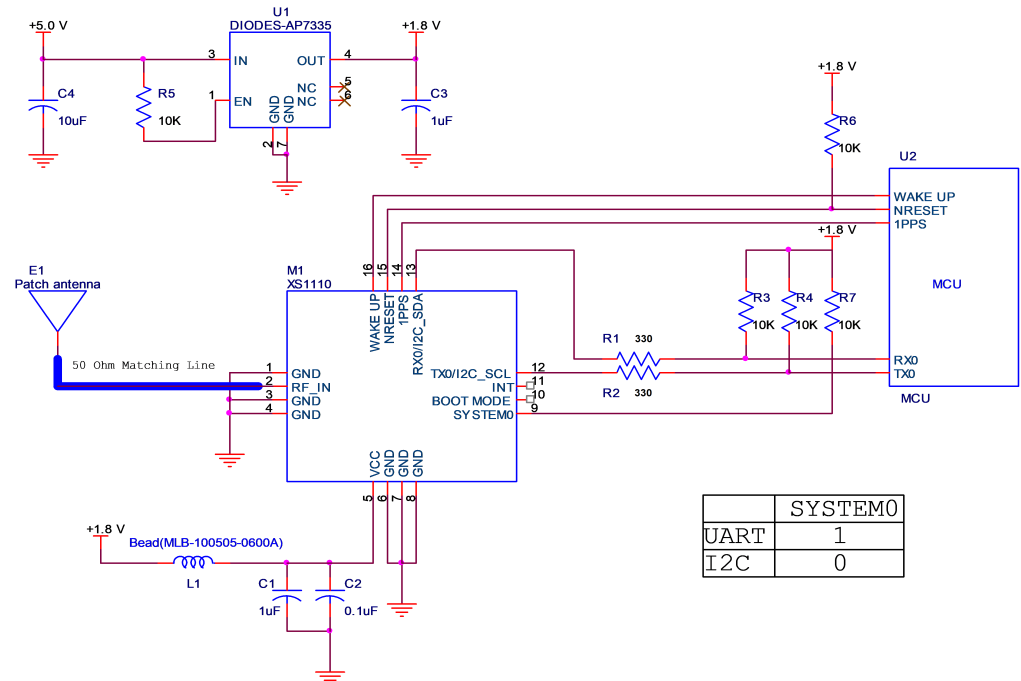

Figure 4-1: Reference Schematic Design for UART
1. UART – this interface can support NMEA output; refer to Figure 4-1.